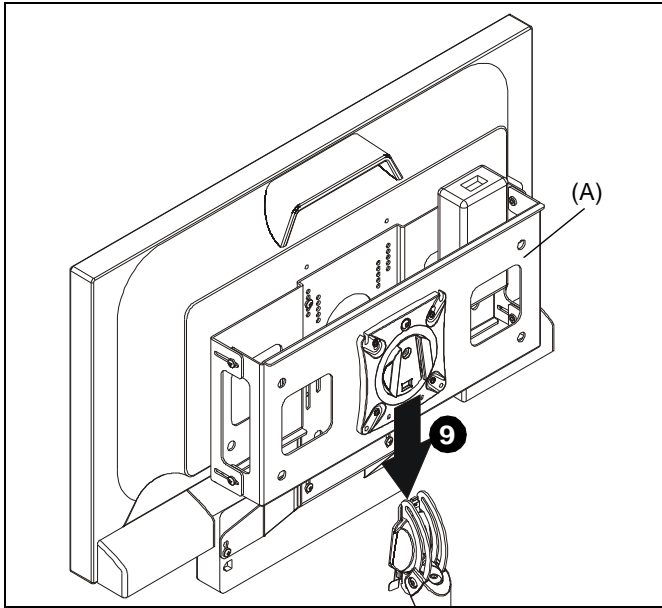

Figure 9
8. Position display with interface attached above mount. (See Figure 9)
9. Slide faceplate onto mounting head until quick release tab clicks into place. (See Figure 9)